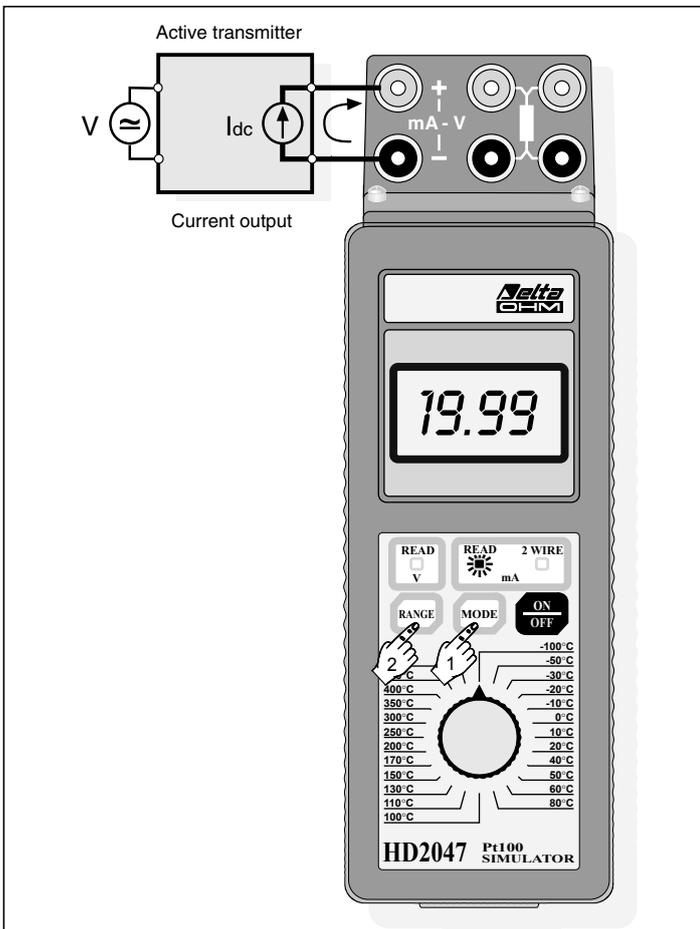

Fig. 2 Continuous current measurement
Operating mode (see fig.2):
- connect the wires to the sockets, as shown in fig. 2, without changing the correct polarity: to be measured, the current must be delivered through the positive (+) socket;